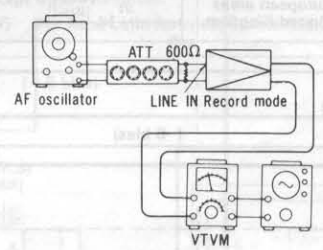

Fig. 19
1. Test equipment connection is shown in fig. 19.